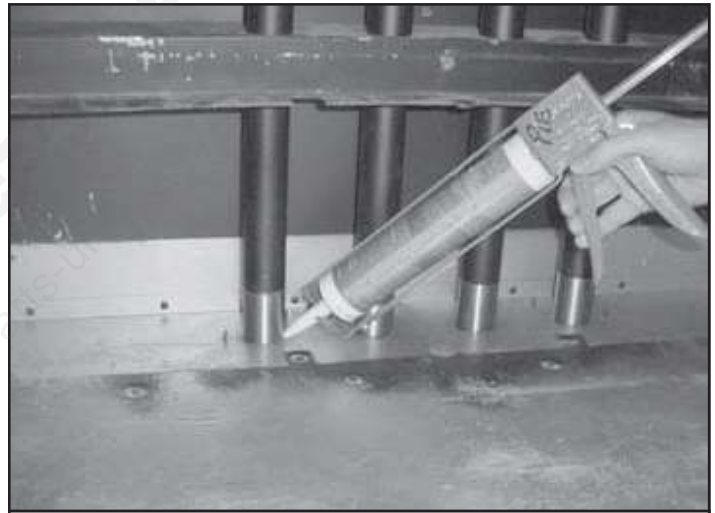

Figure 7 Seal with 500° F Silicone Sealant
- Use 500° F silicone sealant to seal around each of the four heat tubes going into firebox bottom. See Figure 7.